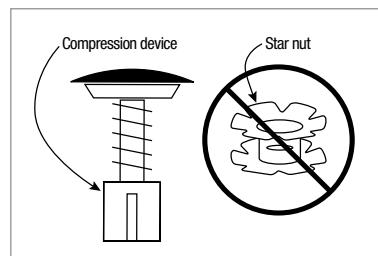

Figure 9
- ⚠️ WARNING:** Never use a star nut with a carbon steerer tube fork (Fig. 9). Use a compression device designed for carbon steerers.